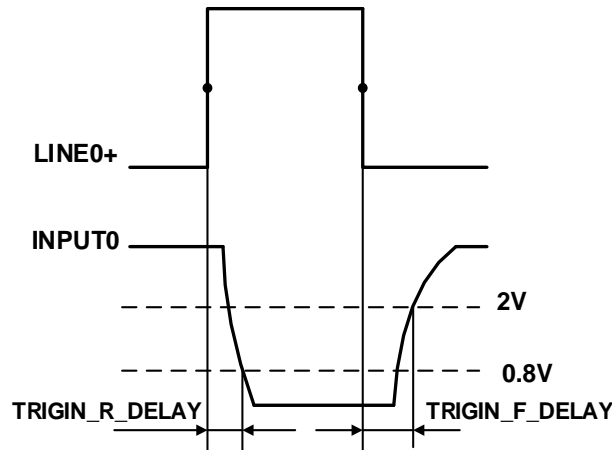

Figure 7-4 Parameter of opto-isolated input circuit
- Rising edge delay:  $<50\mu s$  ( $0^{\circ}C \sim 45^{\circ}C$ ), parameter description as shown in Figure 7-4
- Falling edge delay:  $<50\mu s$  ( $0^{\circ}C \sim 45^{\circ}C$ ), parameter description as shown in Figure 7-4
- Input rising time delay:  $<2\mu\text{s}$  ( $0^{\circ}\text{C}\sim 45^{\circ}\text{C}$ ), parameter description as shown in Figure 7-4
- Input falling time delay:  $<2\mu\text{s}$  ( $0^{\circ}\text{C}\sim 45^{\circ}\text{C}$ ), parameter description as shown in Figure 7-4